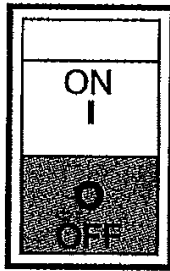

Figure 44. Circuit Breaker OFF (GFCI Test)
- Also verify that the main circuit breaker switch trips to the **OFF** position (Figure 44).